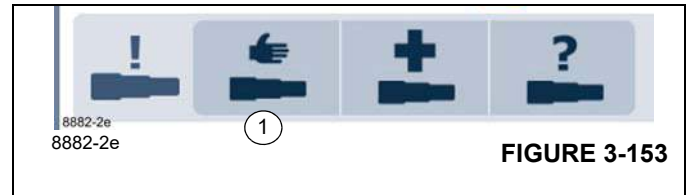

FIGURE 3-153
To open: Select symbol (1) and confirm – menu is opened (Figure 3-153).